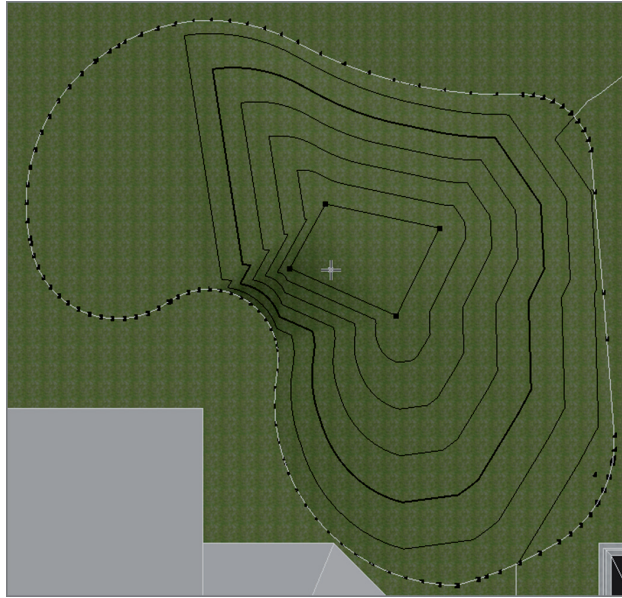

FIGURE BC3.9: The split surface sketch
5. Pick four points near the center of the hill (see Figure BC3.9).